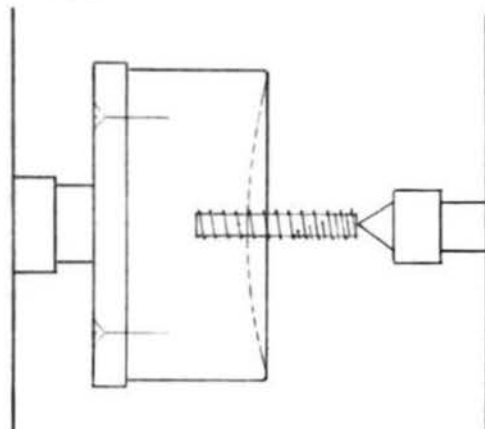

Figure 2—Mounting jig for spin top components.
1. A block of maple or hickory, approximately 6" in diameter by 2" thick, is mounted to a faceplate, turned and centered. Its face is slightly concaved (Figure 2).